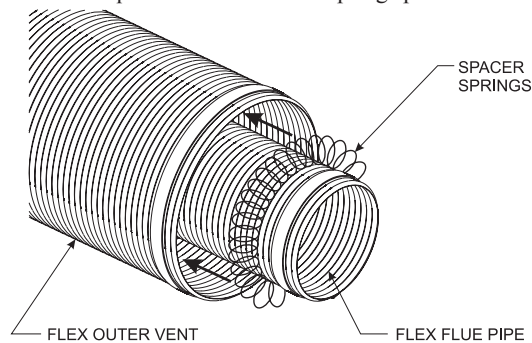
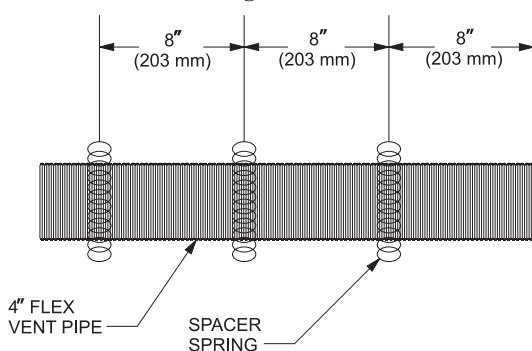

Figure 50
Figure 51
2. Check to see that the vent spacer springs are located around the flue vent at 8" and 12" intervals along its length. See Figure 50. If not, stretch the spacer springs to about 15" long and wrap them around the flue, then interlock the ends of each spring about 2". See Figure 51. Maintain equal distance between spring spacers.